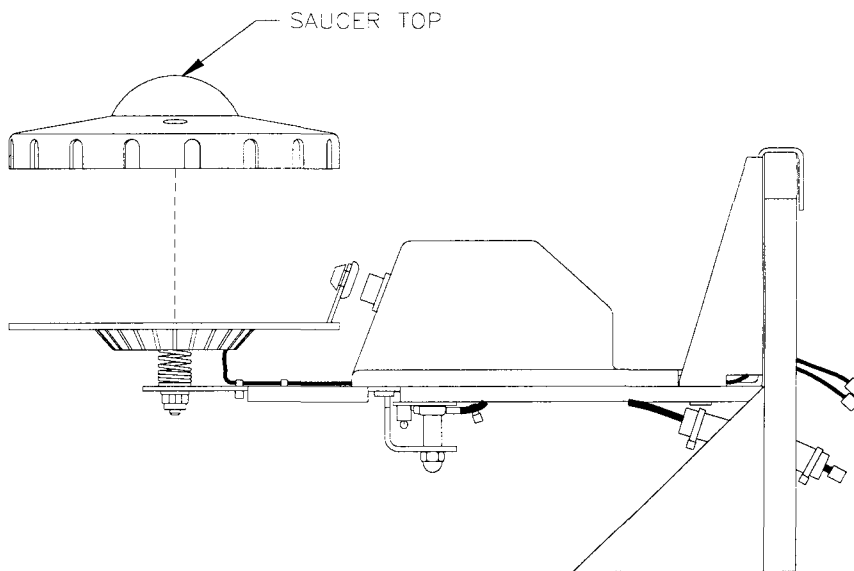

FIGURE 5
3. Carefully lift the Saucer Top straight up and set aside. (See Fig.5)